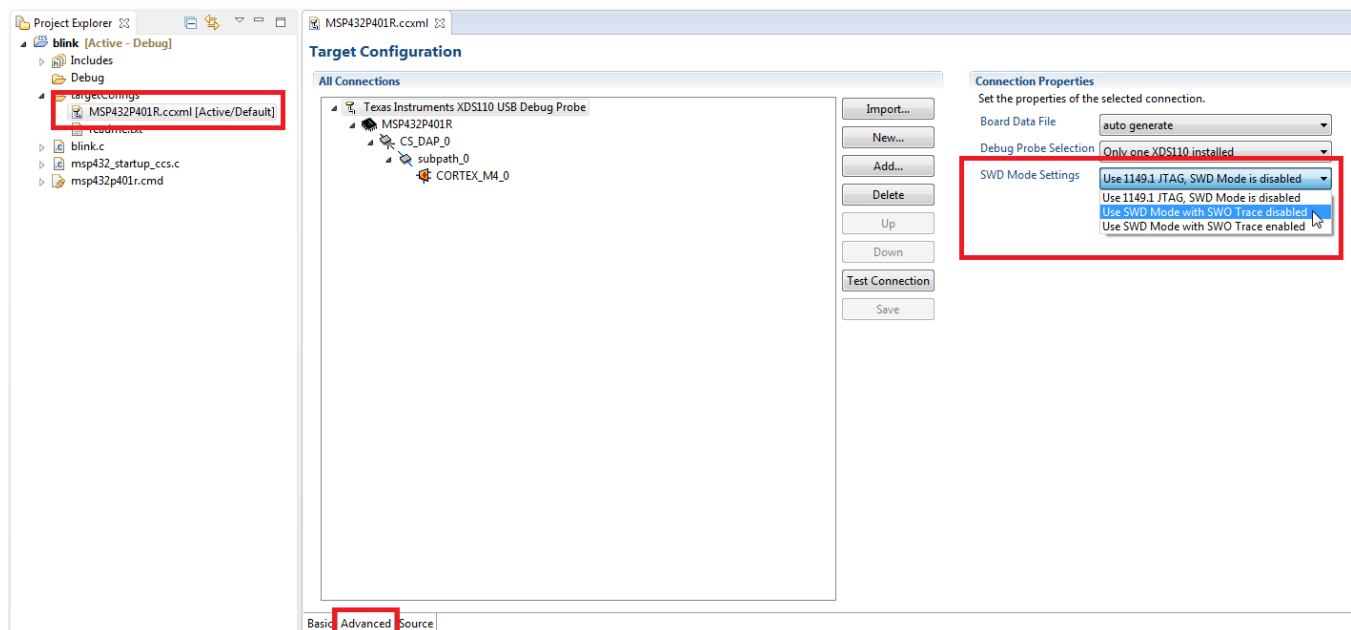

Figure 39. Change Debugger Settings to SWD
- Check the debugger settings- change to Serial Wire Debug (SWD) without SWO. When the settings of Port J (PJSEL0 and PJSEL1 bits) are changed, full JTAG access is prevented on these pins. Changing to use SWD allows access through the dedicated debug pins only. Figure 39 shows how to configure the debugger to use SWD instead of JTAG by modifying the MSP432P401R.ccxml file.